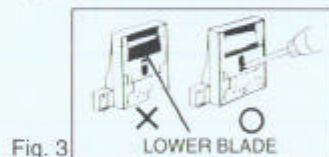

Fig. 3
2. Make sure that the cutter LOWER BLADE is down. If the BLADE is up, lower it using a screwdriver, etc. (Fig. 3)